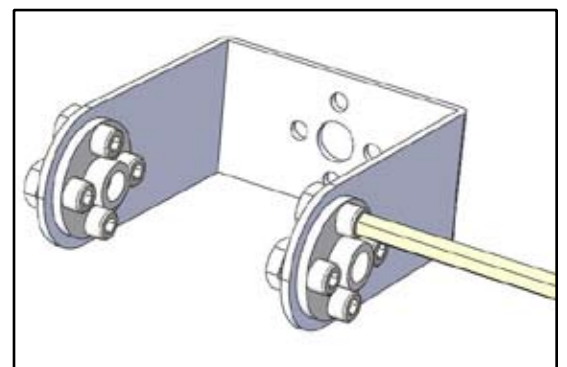

Figure B9
- 2) Remove servo horns from two servos. Attach these to a joint pivot bracket – each with two 5/16" SHCSs and kep nuts – so one is on the inside of the bracket and the other is on the outside and opposite end (Figure B9).